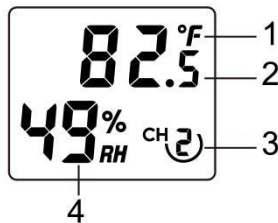

Figure 15: sensor LCD display
7. Verify the correct channel number (CH) and temperature units of measure ($^{\circ}\text{F}$ vs. $^{\circ}\text{C}$) are on the display, as shown in Figure 15 .